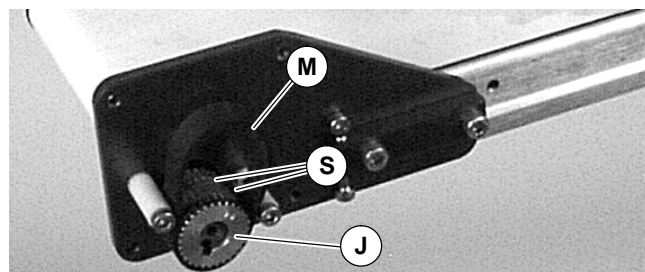

Figure 12
4. Remove old timing belt (M of Figure 12).